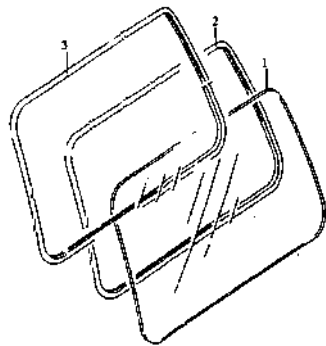

Fig. 4.5-4
1. Side window structure is as shown in Fig. 4.5-4.